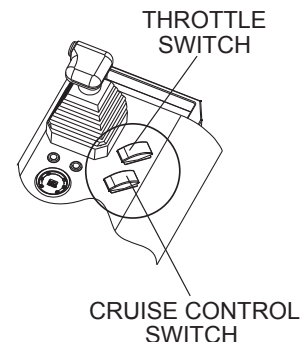

Figure 16. Cruise Control Switch
1. Press the cruise control switch (Figure 16) to engage the cruise control. The cruise control switch LED indicator lights when cruise control is engaged.